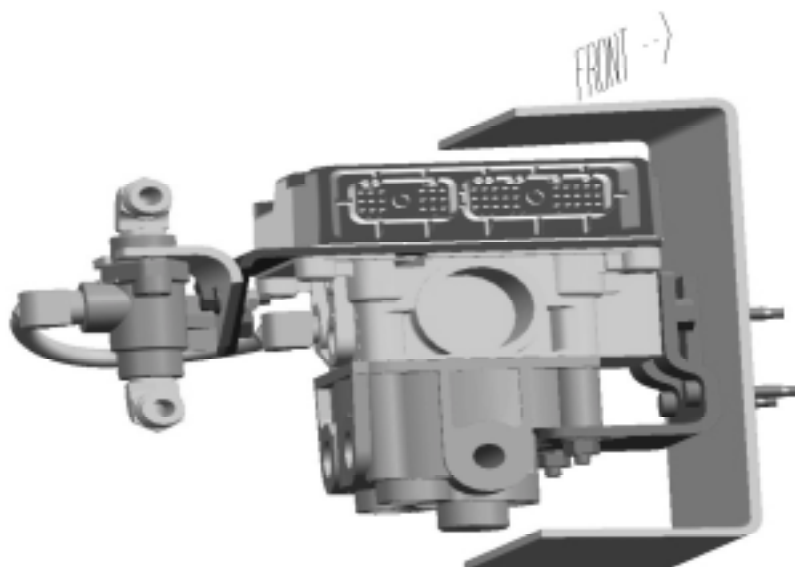

Figure 4: View of Assembly with Bracket Kit Installed (8900083R91)
20. Connect the new short air line to the double check valve as shown in Figure 4. **DO NOT KINK AIR LINE.** Air line will require shortening to approximately 9-inches. Check line routing and cut to appropriate length.